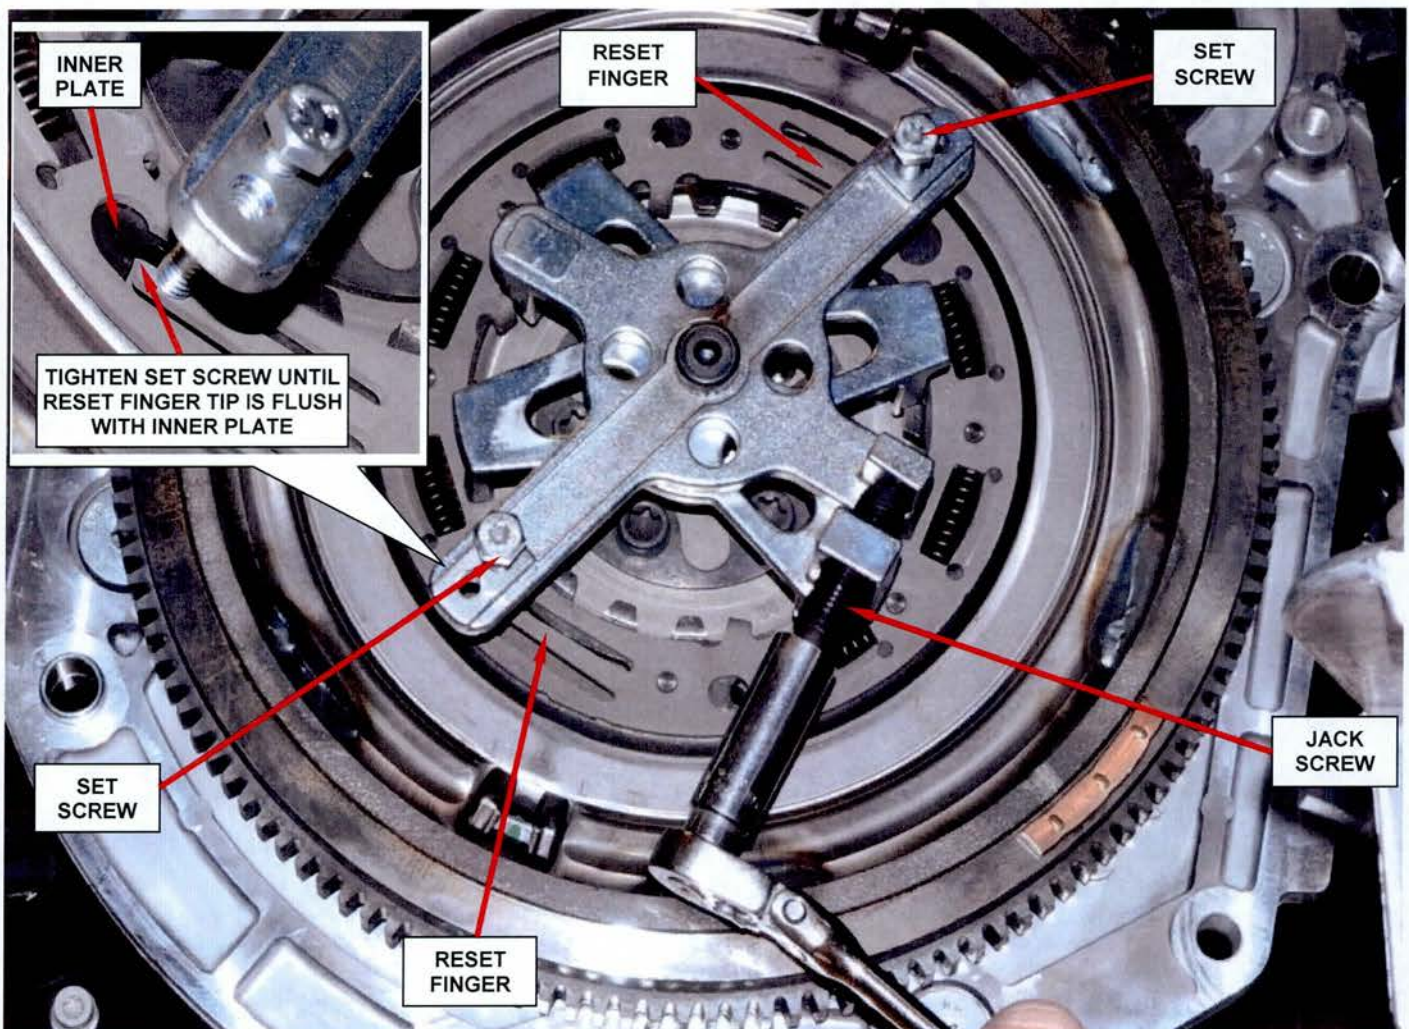

Figure 31 – Tighten Jack Screw until Reset Fingers are Over the Slot on the Inner Plate
- b. Tighten the jack screw until the reset fingers are over the slot in the inner plate (Figure 31).
- c. Tighten both set screws on the tool until each of the reset fingers are depressed to the level of the inner plate (Figure 31).